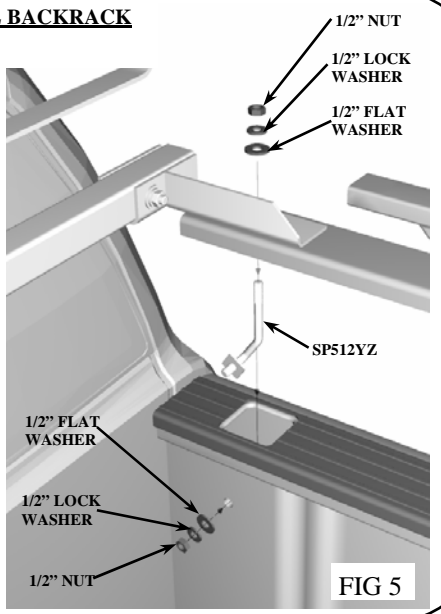

**FIG. 1 SIDERRAIL
- SIDERAIL should have the angle lip towards the inside of the truck box, with the name facing the outside of the truck. Lower the side rail into position, slowly, lining up the stake pocket bolts. SIDERAIL should drop into place with little effort. Do not hammer or force the SIDERAIL down on the truck bed. These have been designed to drop into the pockets of your truck with ease. If supplied, place the foam strips along the underside of the SIDERAIL to prevent scratching. See Figure 1.